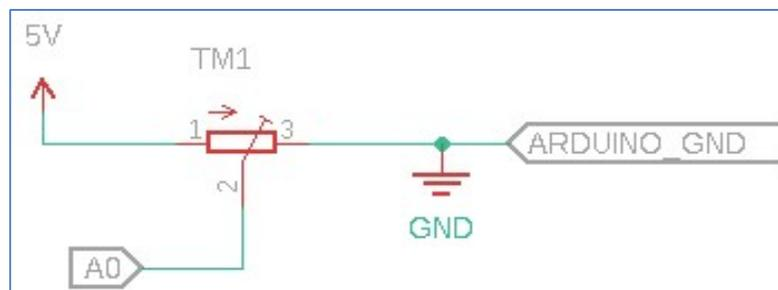

Figure 1: Schematic for a stand-alone potentiometer connected to pin A0 on the Arduino Mega
1. Follow the schematic in figure 1 to connect the potentiometer to the microcontroller.